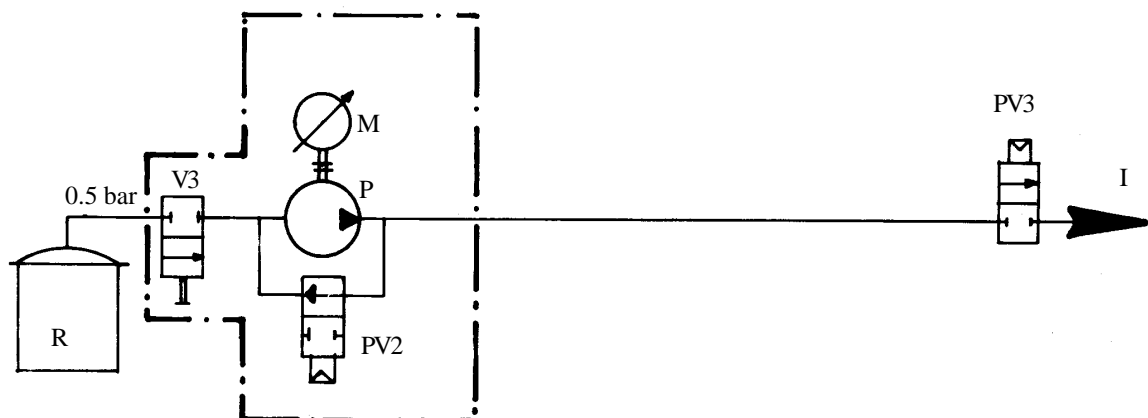

Figure 9
5.3. MONTAGE AVEC PNEUMOVANNE DE BY-PASS SUR POMPE (VOIR FIGURE 9)